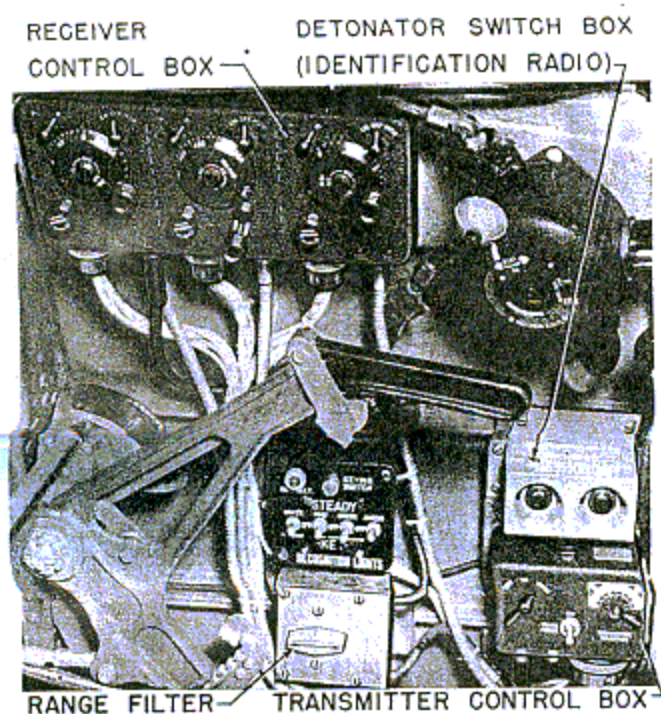

Figure 269—SCR-274 Radio Controls
c. RECEIVER CONTROL BOX.—The radio receiver control box (BC-450-A) is located on the right cockpit wall just forward of the oxygen regulator. It is equipped to tune any one of the three receivers separately. (See figure 269.)
d. RANGE FILTER.—The range filter (FL-8), is located directly below the recognition lights switches. It provides selection of voice or range reception when both are being received simultaneously. (See figure 269.)